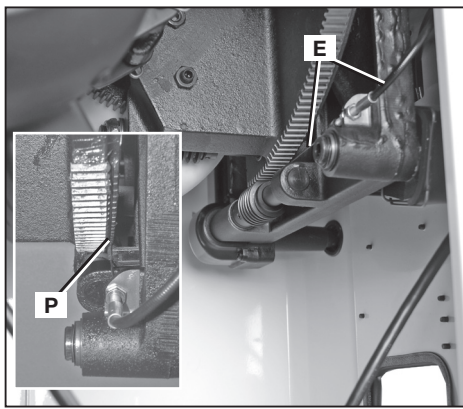
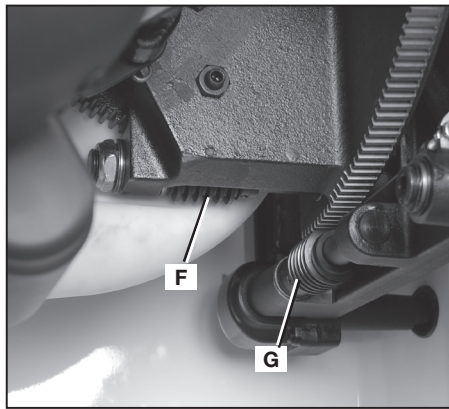

FIG. 83
FIG. 84
BEVEL INDICATOR CABLE (E) Fig. 83: Keep the cable (E) and mating slot (P) free of dust and debris buildup. Blow out area regularly with compressed air.
AS NEEDED, GREASE THE WORM GEARS (F) and (G) Fig. 84: Keep the worm gears free of dust and debris buildup. Blow out area regularly with compressed air. Use a lithium-based multipurpose grease as needed on these gears. When greasing gears, be careful and do not get any grease on the bevel indicator cable (E) Fig. 83.